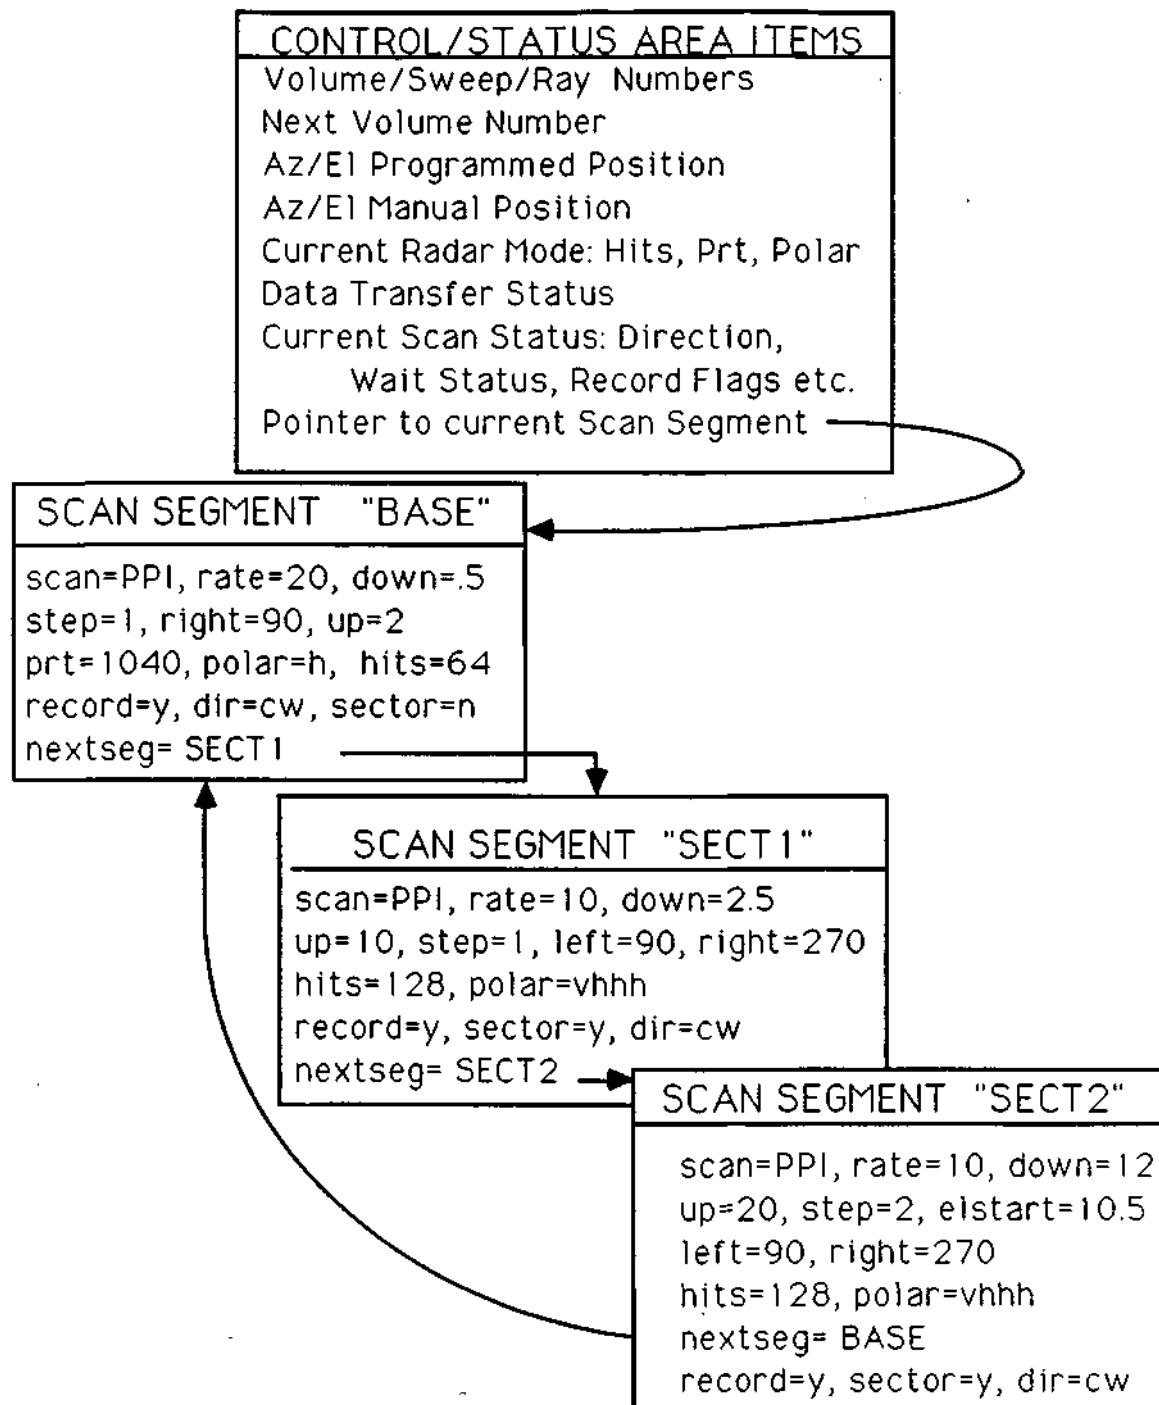

Figure 3. Control Structures Example
Scan segments are assigned names which may be chosen to reflect their purpose. This example starts with the segment named "BASE", which defines two surveillance sweeps at low elevation angles and a high azimuth scan rate. At that point, the operator wants the scan rate to be reduced for improved ZDR measurements. This also requires (in this hypothetical case) that a sector scan be used to keep the volume scan time under 5 minutes. To accomplish all these changes, a new scan segment called "SECT1" is introduced and linked to follow the two "BASE" angle sweeps. Furthermore, elevation sweeps up to 20 degrees must be recorded in order to "top" nearby echos. To accomplish this and still meet the 5 minute scan time requirement, the elevation step angle needs to be increased when the elevation goes above 10 degrees. This requires the addition of another scan segment which is called "SECT2". Note that since "SECT2" is the last segment of the volume scan, the ENDVOL flag has been set to cause the housekeeping data to be updated accordingly. Figure 3 illustrates an example of how these scan segments may be linked together to form a typical volume scan.
2.5.1. Command file: The following commands would define the scan segments outlined in figure 3. (Comments in right-hand column would not be entered)